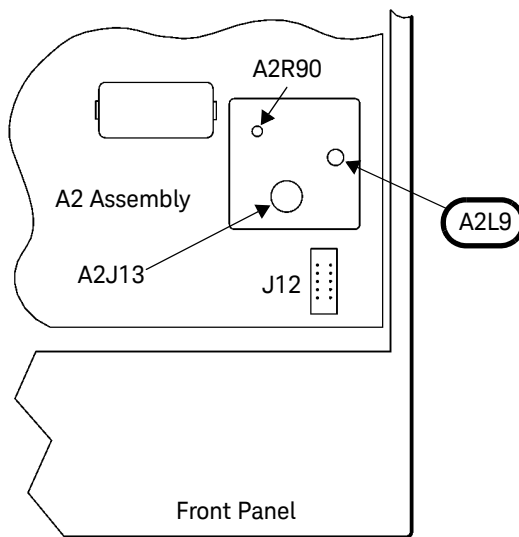

Figure 3-2 A2L9 Adjustment Location
- 6 Adjust A2L9 to obtain a 50.0 ± 0.5 MHz indication on the frequency counter. Refer to Figure 3-2 for the position of A2L9.